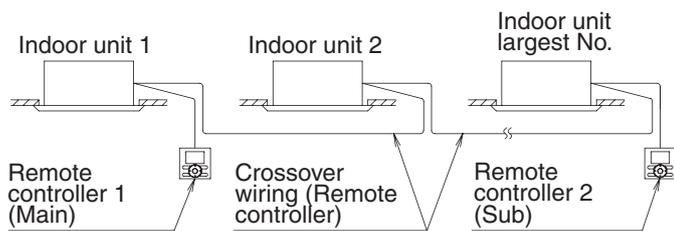

Fig. 26
- (1) Remove the control box lid.
- (2) Carry out additional wiring from the remote controller 2 (Sub) to the terminals (P1, P2) for remote controller wiring on the terminal block (X1M) in the control box.
- When using the group control and the 2 remote controllers control at the same time, connect the remote controller 2 (Sub) to the indoor unit at the end of the crossover wiring (the largest No.). (Refer to Fig. 26)